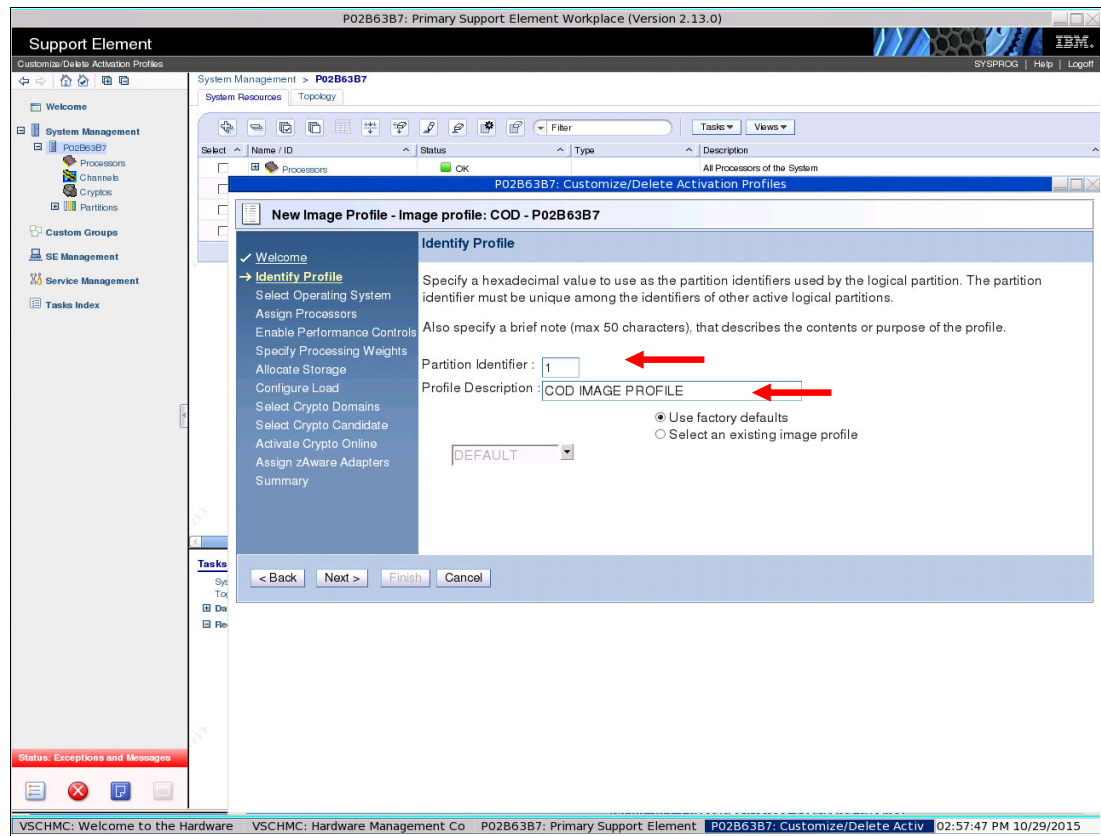

Figure 5-32 New Image Profile window
4. We enter the Partition Identifier that matches the value that was used on our IOCS file and a brief description for this LPAR image profile. Then, we select **Next**, as shown in Figure 5-32.